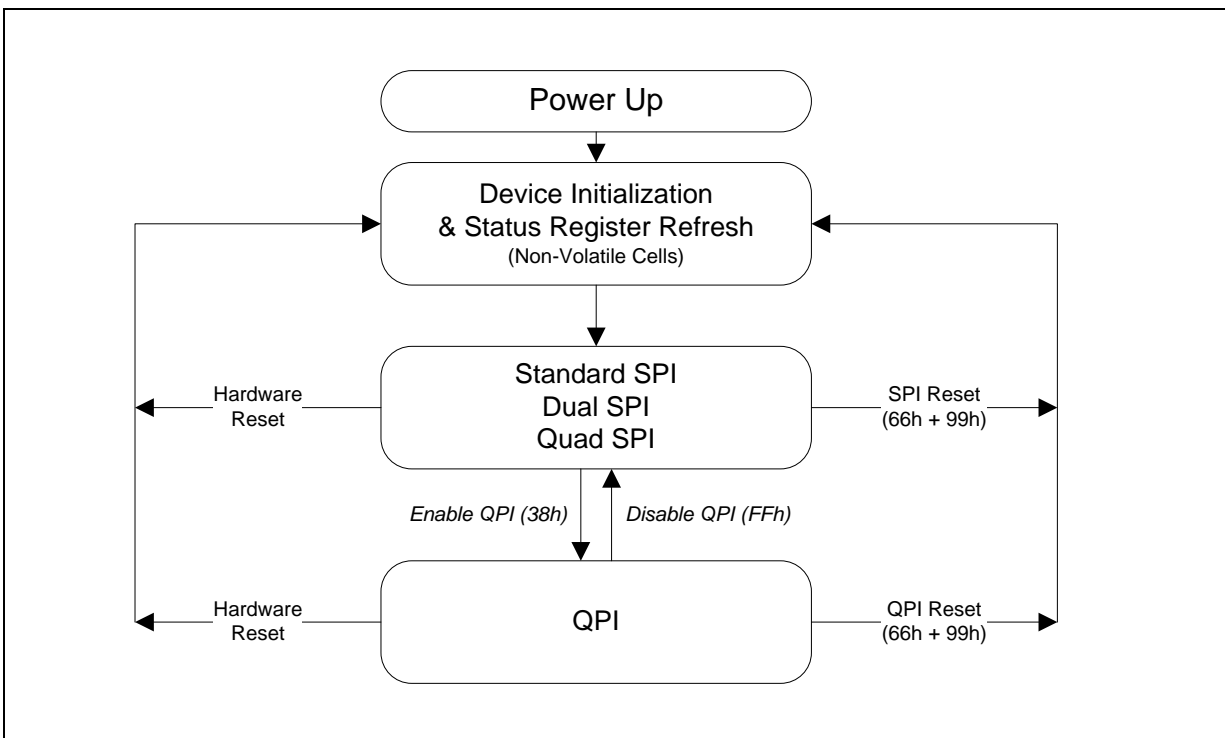

Figure 3. W25Q80RV Serial Flash Memory Operation Diagram
The W25Q80RV supports Quad Peripheral Interface (QPI) operations only when the device is switched from Standard/Dual/Quad SPI mode to QPI mode using the “Enter QPI (38h)” instruction. The typical SPI protocol requires that the byte-long instruction code being shifted into the device only via DI pin in eight serial clocks. The QPI mode utilizes all four IO pins to input the instruction code, thus only two serial clocks are required. This can significantly reduce the SPI instruction overhead and improve system performance in an XIP environment. Standard/Dual/Quad SPI mode and QPI mode are exclusive. Only one mode can be active at any given time. “Enter QPI (38h)” and “Exit QPI (FFh)” instructions are used to switch between these two modes. Upon power-up or after a software reset using “Reset (99h)” instruction, the default state of the device is Standard/Dual/Quad SPI mode. To enable QPI mode, the non-volatile Quad Enable bit (QE) in Status Register-2 is required to be set. When using QPI instructions, the DI and DO pins become bidirectional IO0 and IO1, and the /WP and /HOLD pins become IO2 and IO3 respectively. See Figure 3 for the device operation modes.